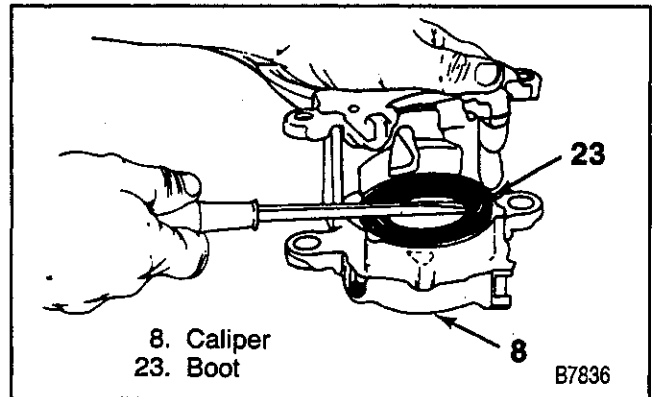

Figure 12—Removing the Boot
4. Boot (23) (figure 12).
5. Piston seal (21).
6. Bleeder valve (20).